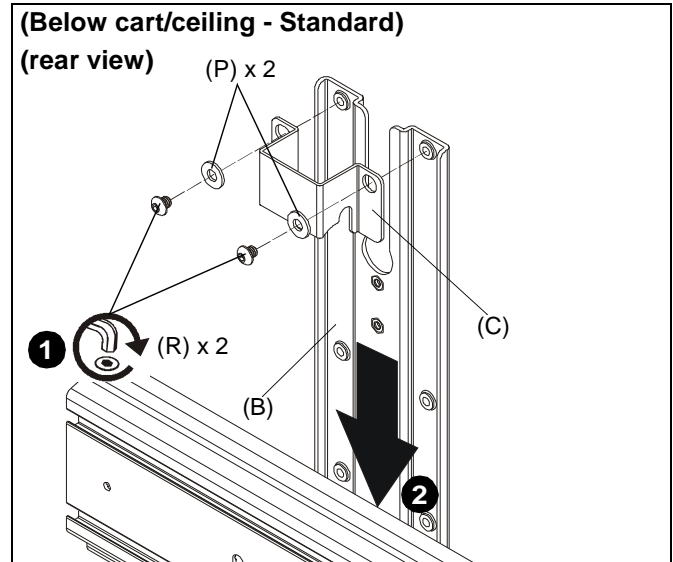

Figure 9
1. Use two 1/4-20 x 1/4" button head cap screws (R) and two large washers (P) to secure support bracket (C) to main bracket (B). (See Figure 9)
2. Slide main bracket (B) onto front of cart/ceiling mount head assembly until support bracket (C) rests on top of head assembly. (See Figure 9)